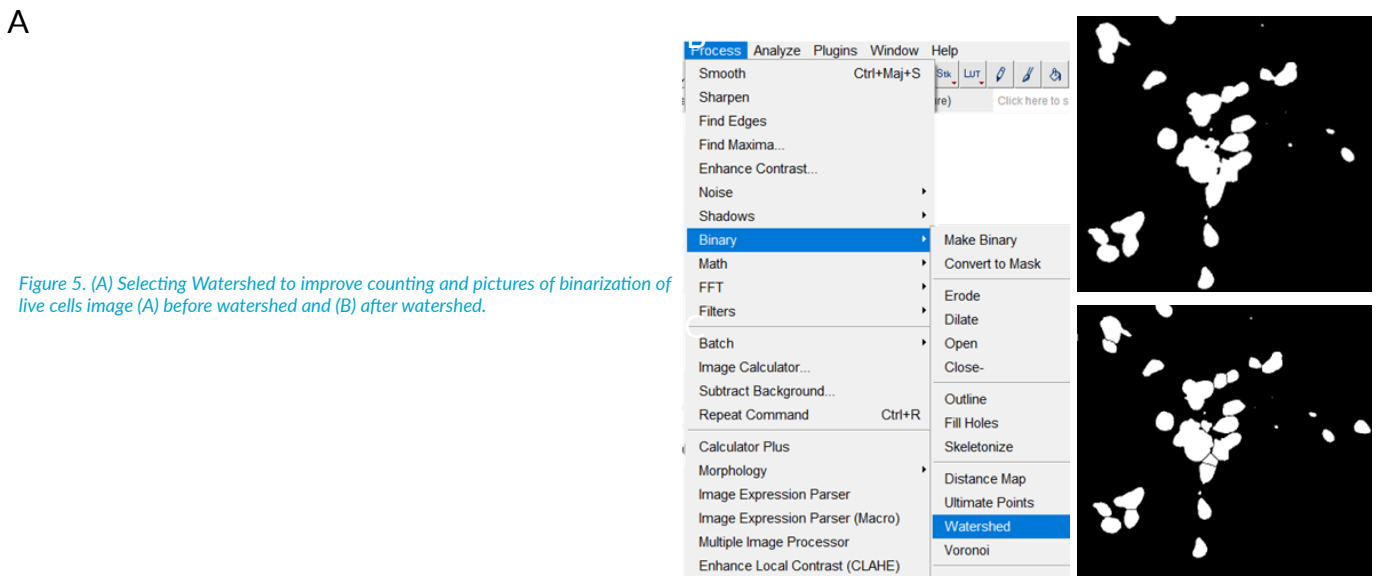

Figure 5. (A) Selecting Watershed to improve counting and pictures of binarization of live cells image (A) before watershed and (B) after watershed.
- 7.6. Choose "Process > Binary > Watershed" (Figure 5)